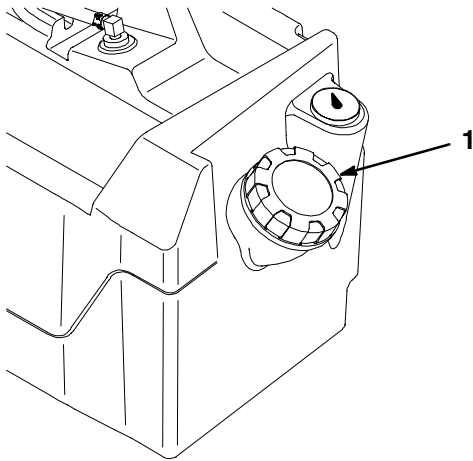

Figure 12
2. Clean area around fuel tank cap (Fig. 12).